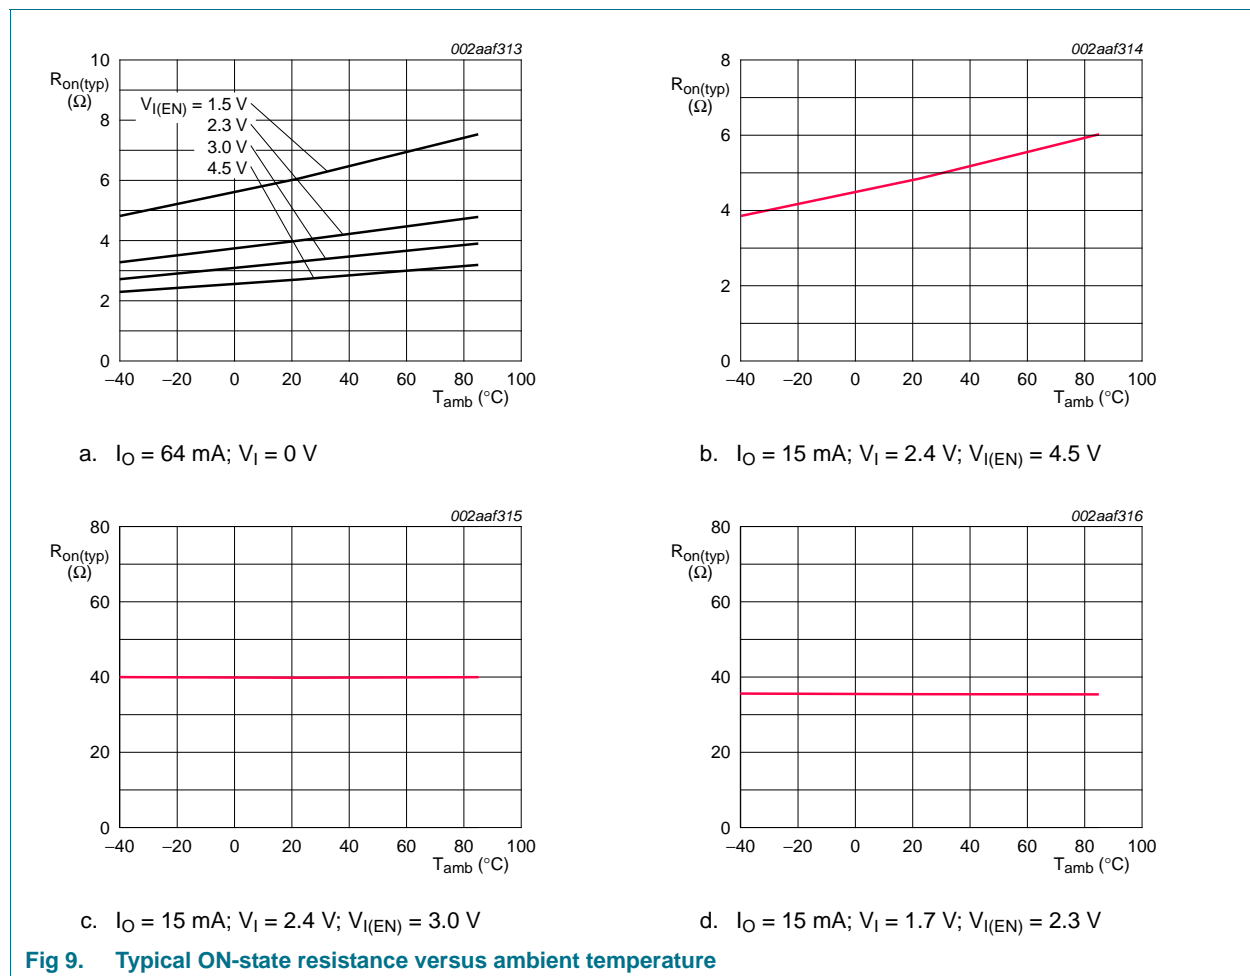

Fig 9. Typical ON-state resistance versus ambient temperature
- [4] See curves in Figure 9 for typical temperature and $V_{I(EN)}$ behavior.